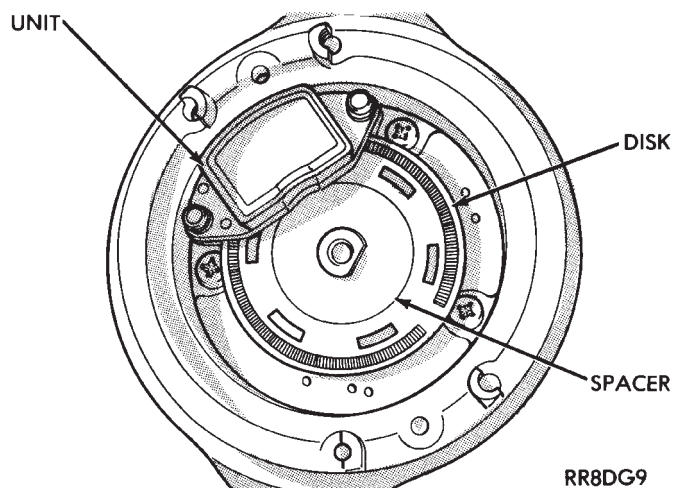
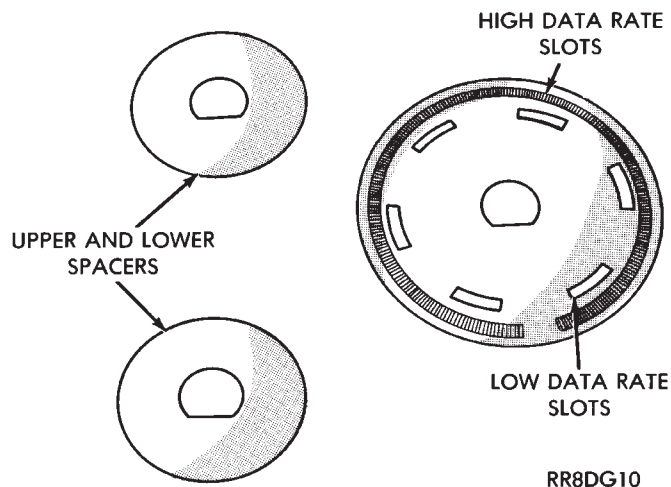

Fig. 28 Disk and Spacers Installed
Fig. 29 Disk and Spacers
- (7) Remove disk spacers and disk (Fig. 28). Disk and spacers are keyed. Check disk for warpage, cracks or damaged slots (Fig. 29).